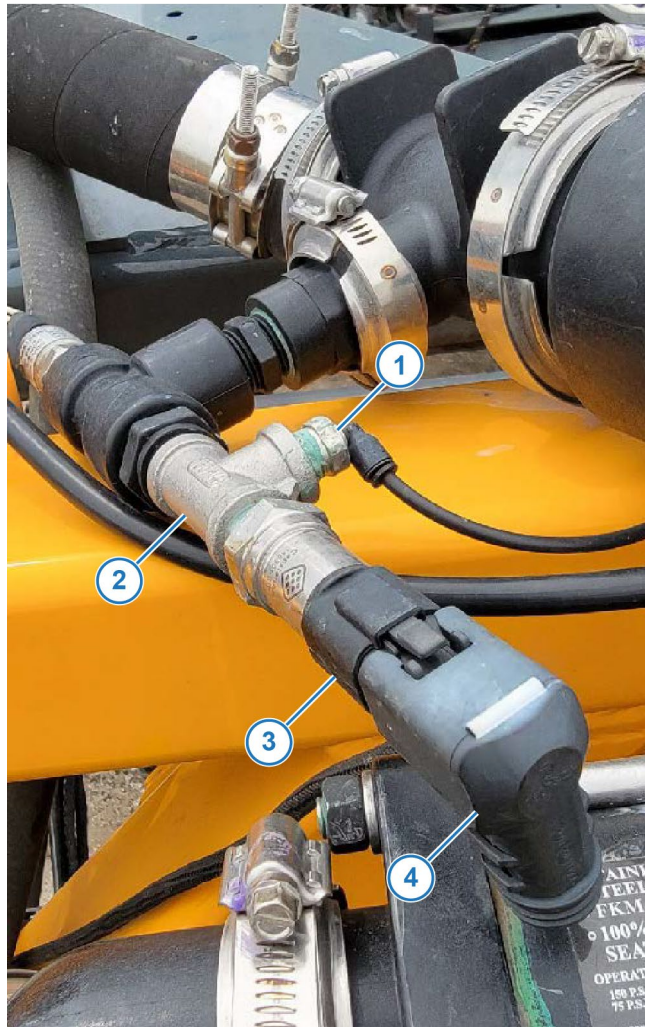

Figure 8 — Pressure Transducer
9. *Figure 8:* Remove machine OEM pressure sensor. (1)
10. Install T-fitting (2) in place of OEM pressure sensor.
11. Install machine OEM pressure sensor in one port of the T-fitting and PinPoint III pressure sensor (3) in the other port.
12. Connect pressure sensor connector (4) of adapter harness to the PinPoint III pressure sensor.